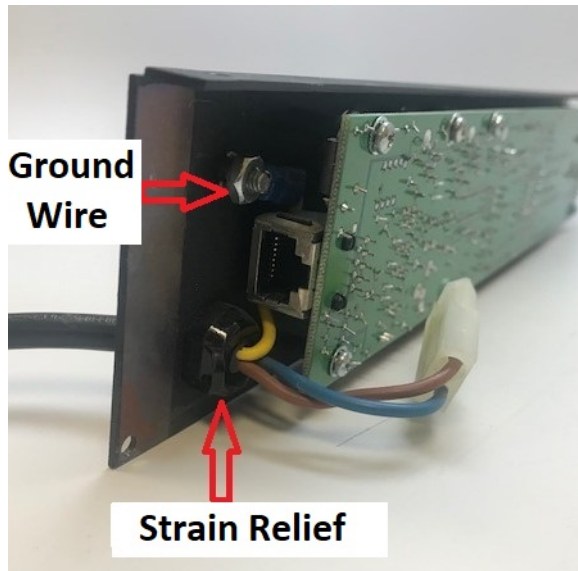

Figure 2
4. Loosen ground nut to remove ground wire. (See fig. 2)